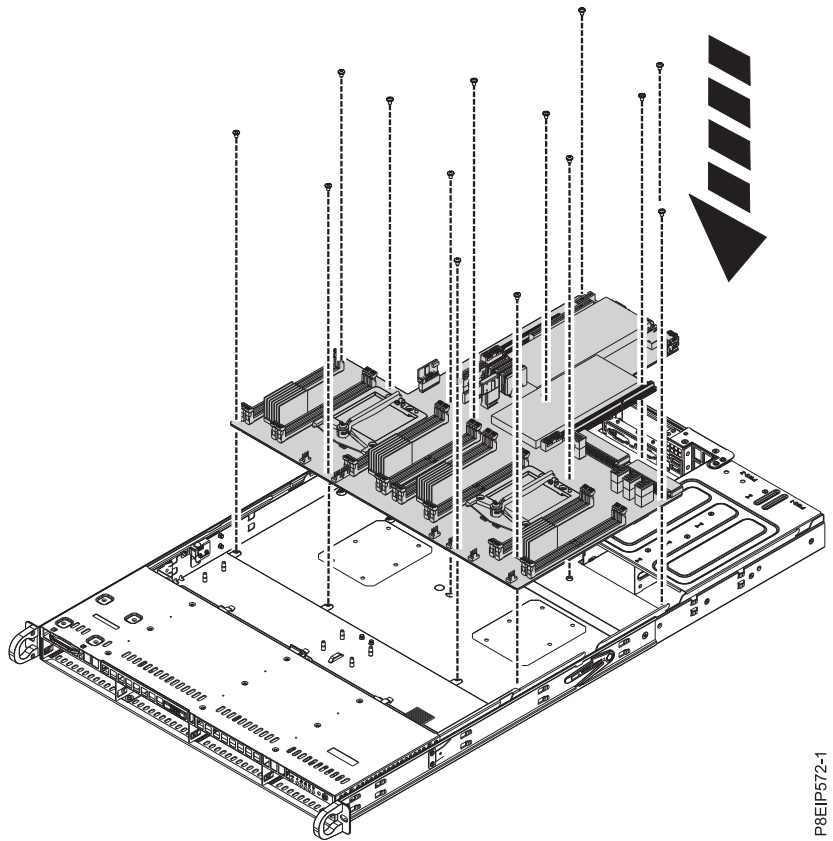

Figure 40. Replacing the system backplane
13. Moving the front cables out of the way, and carefully holding the processor heat sink, lower the system backplane into the chassis, then slide it slightly back. See Figure 40 on page 39.